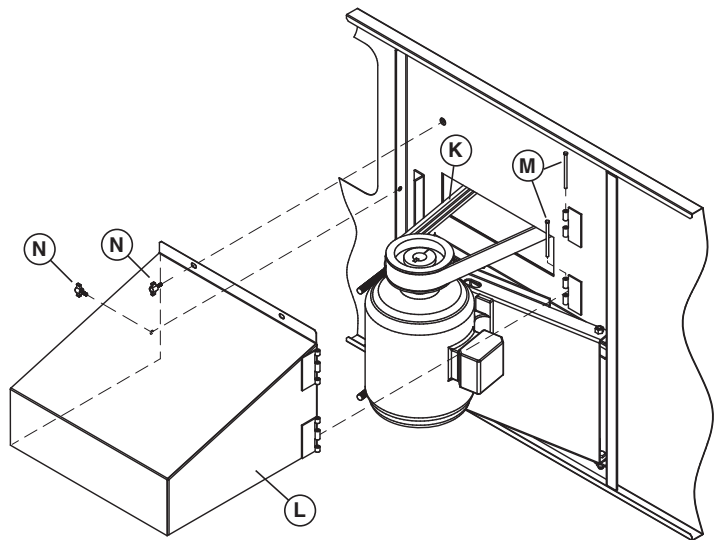

Figure 32 - Motor Guard and Powerband Belt Installation
7. Install Powerband belt K (Figure 32) around fan sheave and motor sheave. Tighten belt by adjusting nuts on "J" bolts. Do not over tighten the belts. The center of the belt should deflect approximately 3/4" with moderate hand pressure.
10. To install Motor Guard L, match up hinges and install hinge pins M. (See Figure 32.)
11. Close Motor Guard and install (2) wing bolts N.